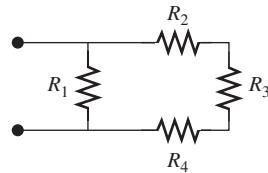

FIGURE P3.3 Circuit for Problem 3.3.
- 3.3 (B) Identify which resistors are in parallel and which are in series in Figure P3.3.